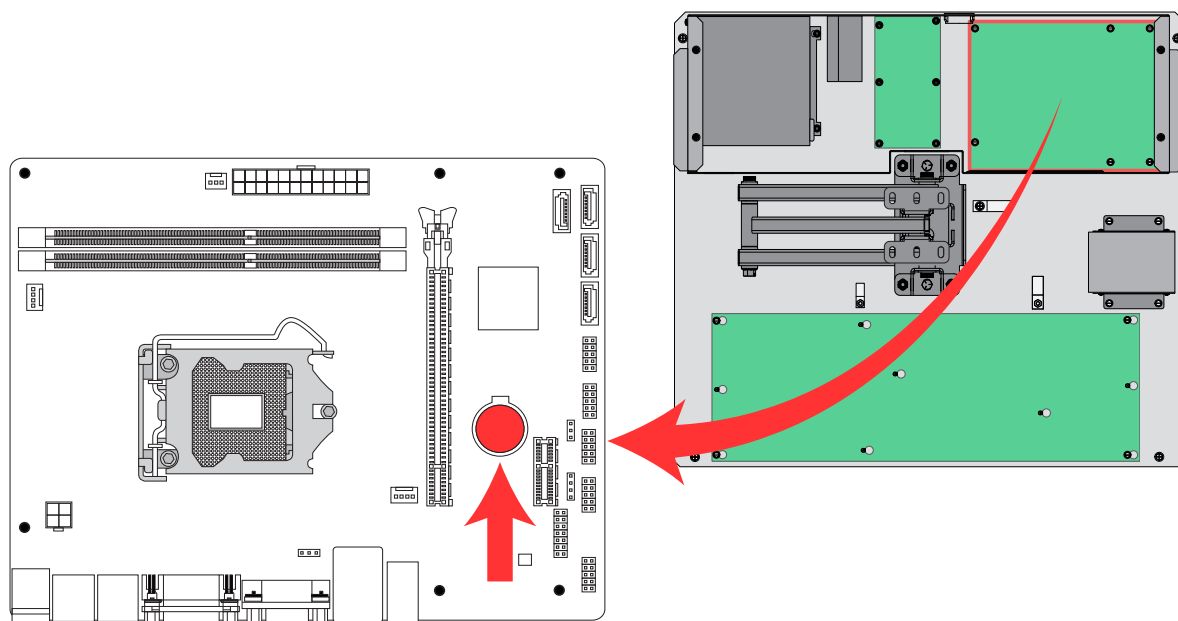

Figure E13. CPU board and battery locations.
- 3) Disconnect the Backbox LED Strip cable (left, inside of the backbox) and free the loose end from the nylon cable clamp(s). Remove the lid of the Backbox PCBs EMI Shield Enclosure by removing the four HWH Phillips machine screws (circled in red, figure E13); set the lid and the four screws aside.
- 4) Locate the CPU board (upper right corner of the EMI shield enclosure), then the shiny, CR2032 coin cell battery & holder mounted on its surface (red arrow and circle, figure E13). Note the orientation of the battery in its holder (with the battery label/imprint facing *outward*).